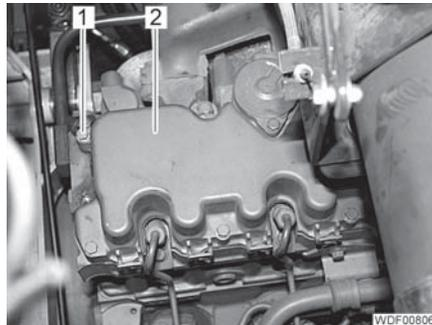

Fig. 4 Cylinder head cover attachment
- Unscrew the 10 screws (Fig. 4,1).
- Remove the cylinder head cover (Fig. 4,2).
- Put the cylinder head cover (Fig. 4,2) into position.
- Screw in the 10 screws (Fig. 4,1).